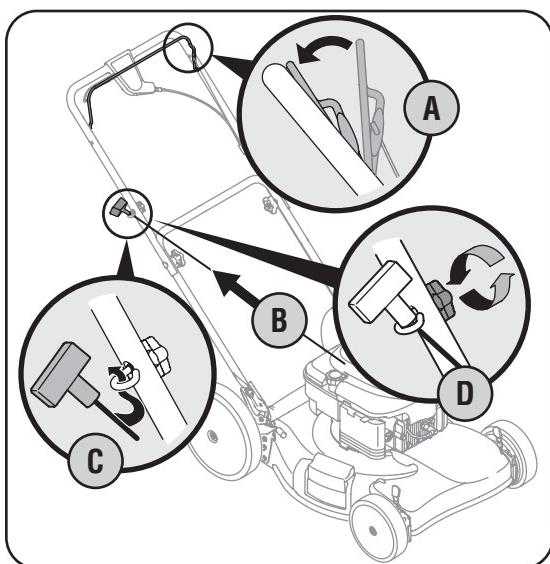

Figure 3-3
b. Pull starter rope out of the engine. Release the blade control. See Figure 3-3.